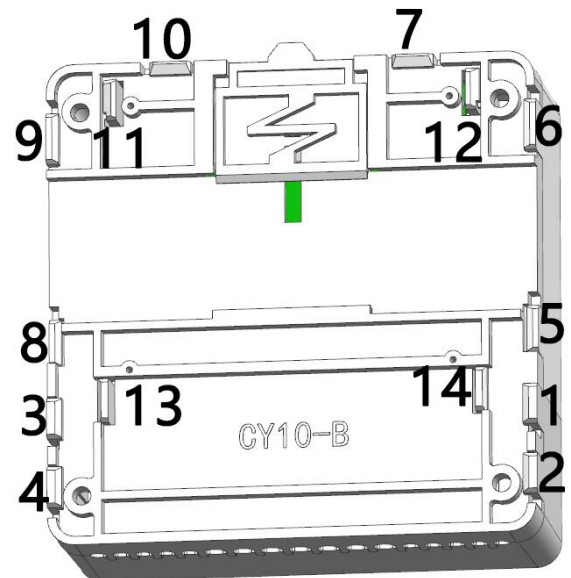
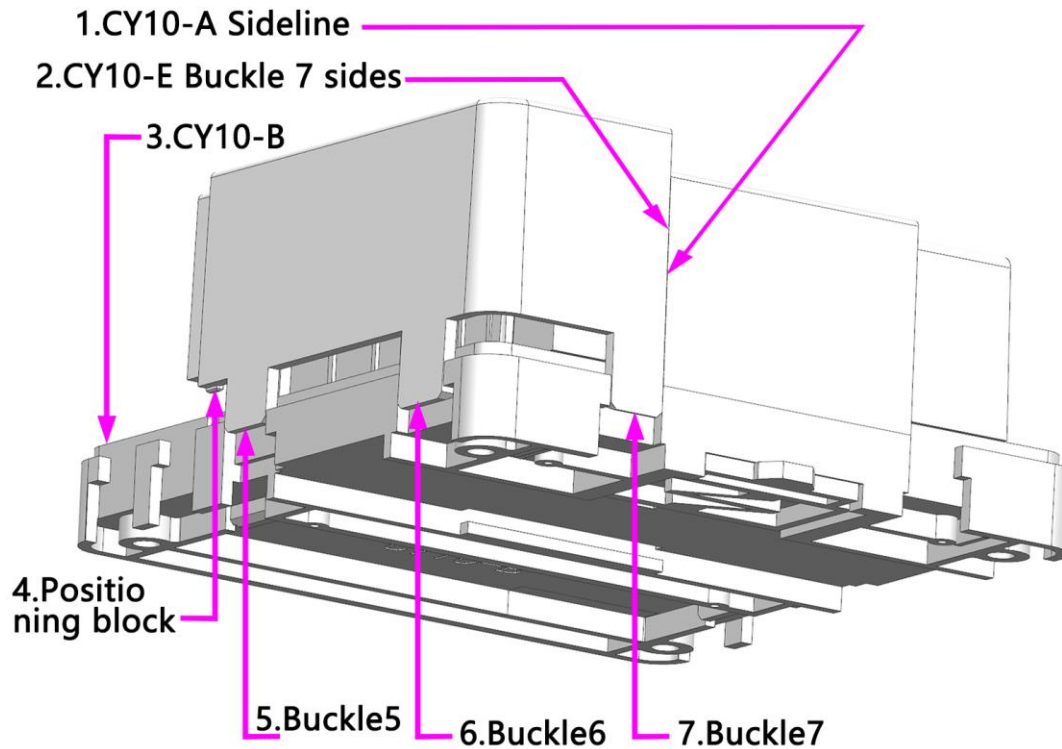

Figure2
Figure 4
Finally, disassemble CY10-A as shown in Figure 2.
(1) All circuit boards and on/off buttons must be installed before installation.
(2) As shown in the "Related Name Diagram", first find the "Guide Pillar" and align the "Guide Pillar" with the "Guide Slot" and insert it until it can no longer be inserted.
(3) Press the deduction positions 11, 12, 13, 14 into the corresponding positions of CY10-B one by one. As shown in Figure 2
(1) Align buckles 5, 6, and 7 to the corresponding positions of CY10-B at the same time, especially when the side line of buckle 7 is as close as possible to the side line of CY10-A, and the gap does not exceed 0.5mm. Then slowly push down until the 3 buckles have buckled CY10-B, corresponding to the positions. As shown in Figure 2, Figure4
(1) Align buckles 8, 9, and 10 to the corresponding positions of CY10-B at the same time, especially when the side line of buckle 10 is as close as possible to the side line of CY10-A, and the gap does not exceed 0.5mm. Then slowly push down until the 3 buckles have buckled CY10-B, corresponding to the positions. As shown in Figure 2
(1) Align buckles 1, 2, 3, and 4 to the corresponding positions of CY10-B at the same time, especially when the sides of buckles 1 and 3 are as close as possible to the side of CY10-A, and the gap does not exceed 0.5mm. Then slowly push it down until the 4 buckles have buckled the CY10-B, corresponding to the positions. As shown in Figure 2
(2) Use your thumb to forcefully squeeze the CY10-C sideline and CY10-A sideline on the top surface